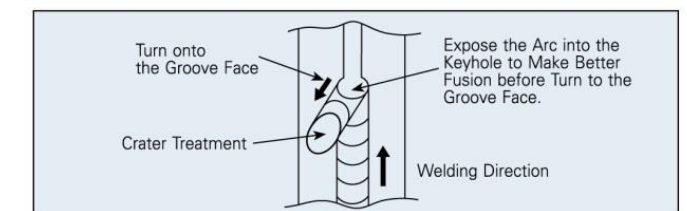

Fig. 8: How to terminate the weld crater in order to prevent the crater from cracking.
- Terminate the crater on the groove face in order to prevent the crater cracking – Fig. 8.